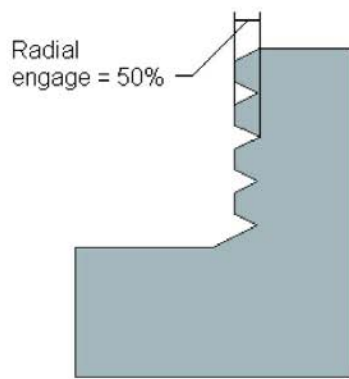

Figure 6-3 Radial engage = 50%
The **Threaded Hole** option in the drop-down list in the **Type** rollout is used to create a threaded hole. The standard of a threaded hole depends on the option selected in the **Standard** drop-down list of the **Settings** rollout. You can specify the required size of the standard threaded hole by selecting the options from the **Size** drop-down list available in the **Thread Dimensions** sub-rollout of the **Form and Dimensions** rollout. In the **Radial Engage** drop-down list available below the **Size** drop-down list, you can specify the percentage of radial engagement which is used to calculate the tap drill diameter, refer to Figures 6-3 and 6-4. The **Tap Drill Diameter** edit box will be activated only when the **Custom** option is selected from the **Radial Engage** drop-down list. In this edit box, you can specify the customized value of the tap drill diameter. Similarly, you can specify the standard thread depth by selecting the required option from the **Depth Type** drop-down list. To enter the customized thread depth value, select the **Custom** option from the **Depth Type** drop-down list if not already selected; the **Thread Depth** edit box will be displayed below the **Depth Type** drop-down list. In this edit box, you can specify the thread depth value of the hole. In the **Handedness** area of the **Form and Dimensions** rollout, you can specify the right hand thread or the left hand thread by selecting the **Right Handed** or **Left Handed** radio button, respectively.
*If the threaded holes are created by using the **Threaded Hole** option, then the threads are represented by dashed lines. These threads are known as symbolic threads. Figures 6-3 and 6-4 are for your reference only. To view*